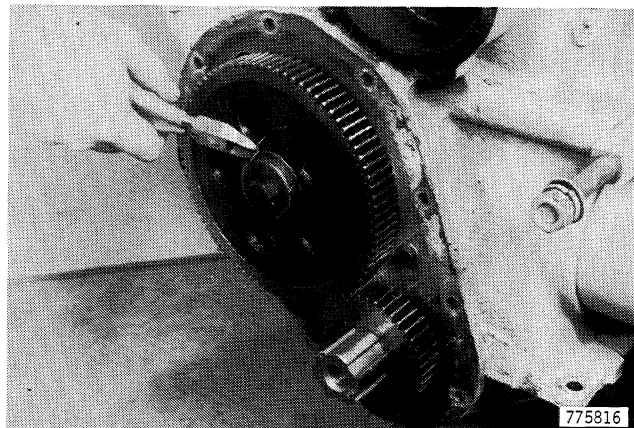

Figure 70
5. Cut the lock wire on the cap screw on the gear on the camshaft, Figure 70.